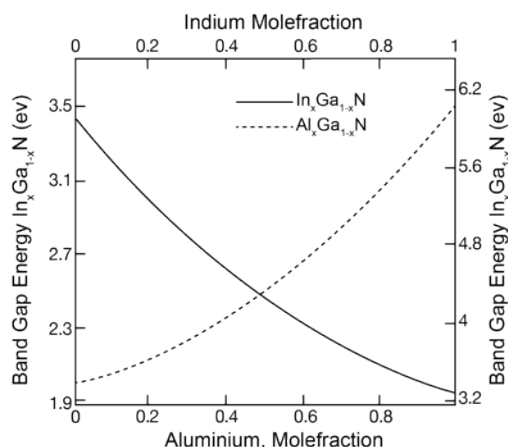

Figure 8 – Dependence of band gap on Al and In mole fractions
2. **Band gap shifts.** The band gap of a semiconductor substrate is a strong function of temperature and so the basic assumption of constant emissivity made by standard pyrometers is not valid. (See Band Gap based AccuTemp in the Appendix) An example of  $\text{In}_x\text{Ga}_{1-x}\text{N}/\text{Al}_x\text{Ga}_{1-x}\text{N}$  is shown in Figure 8. Using emissivity corrected pyrometer allows compensation for emissivity layers.